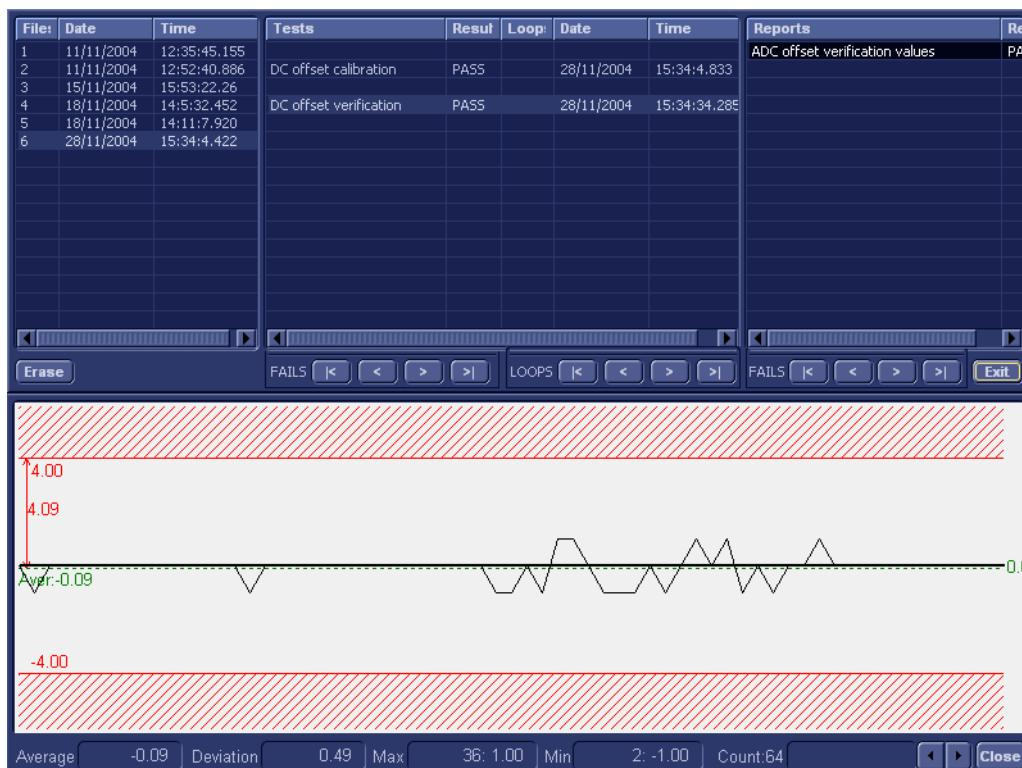

Figure 7-9 View Test Log - DC Offset Verification Test
- the *View Test Log* window opens automatically, listing all tests performed and showing details of which tests passed or failed, as shown in the example in Figure 7-9.
- 9.) Use the scroll arrows at the bottom of the Reports window (see Figure 7-9) to scroll through the channels and view the corresponding results.